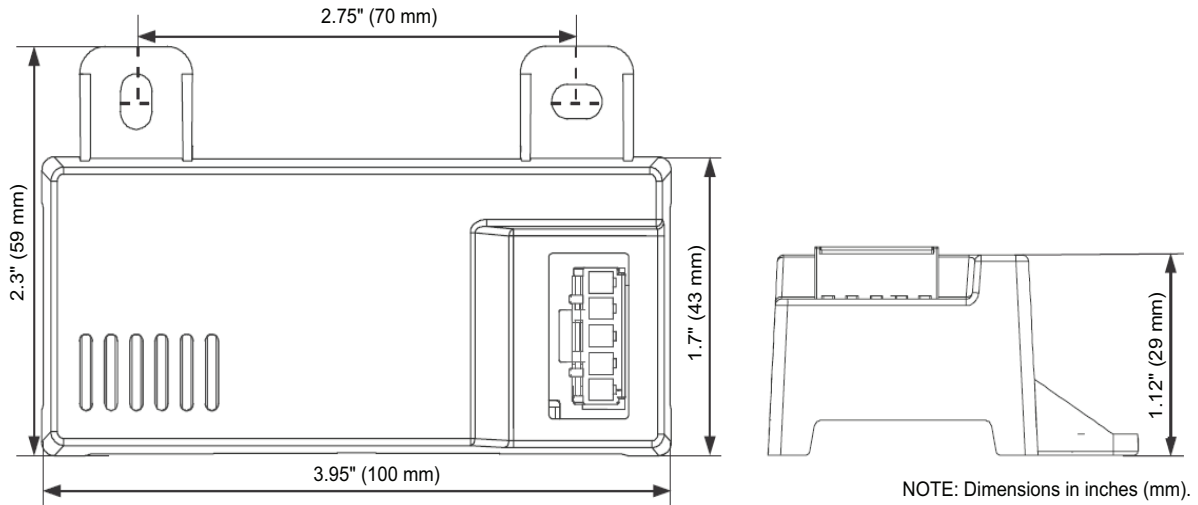
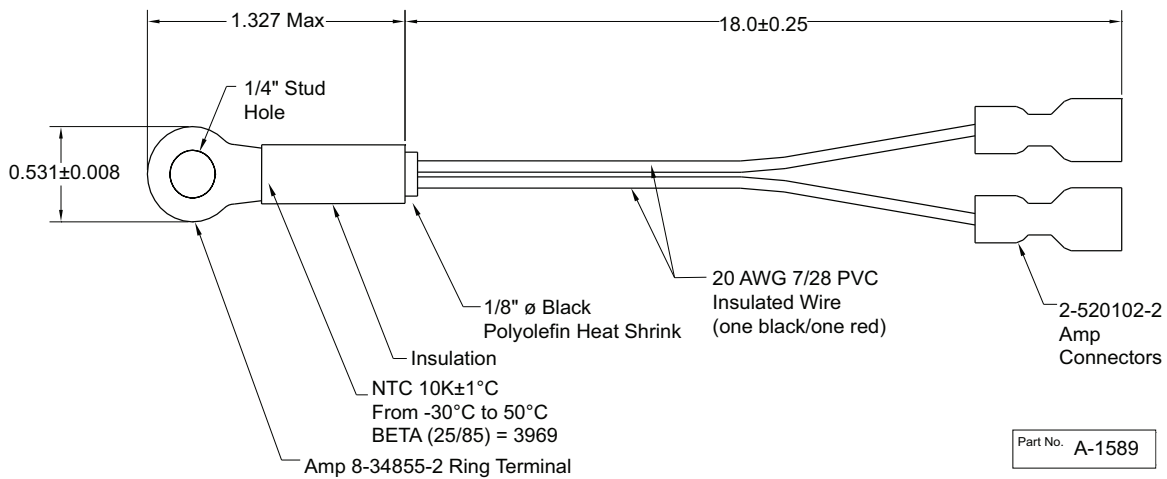
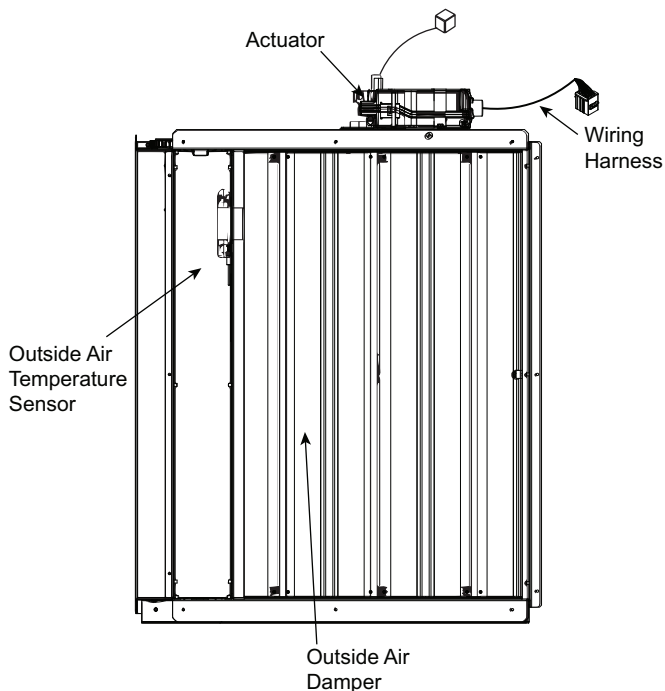

Fig. 75 — HH57LW001 Dimensional, Connection and Switching Information
Fig. 76 — HH79NZ039 Dry Bulb and Mixed Air Sensor Wiring
Fig. 77 — EconomizerONE Component Locations (CRECOMZR108A00 Shown)
When using the HH57LW001 enthalpy sensor (see Fig. 75) for outside air changeover, the existing HH79NZ039 dry bulb sensor (see Fig. 76) must be removed. The enthalpy sensor will be mounted in the same location as the dry bulb sensor (see Fig. 77). When the enthalpy sensor's OA (Outside Air) temperature, enthalpy, and dew point are below their respective setpoints, the outside air can be used for free cooling. When any of these are above the setpoint, free cooling will not be available. Enthalpy setpoints are configurable and create an enthalpy boundary according to the user's input. For additional details, see Fig. 78-79 and Table 25.
The optional enthalpy control sensor (P/N: HH57LW001) communicates with the POL224 economizer controller using the 5-wire harness, 48TC005213. The HH57LW001 sensor can be used as a single outside air enthalpy, a differential return enthalpy, or a differential return temperature sensor. Refer to the base unit control wiring diagrams found earlier in this book to wire the HH57LW001 enthalpy sensor for each option. Use Fig. 75 and Table 27 on page 55 to locate the wiring terminals for each enthalpy control sensor.
Economizers are shipped standard with an HH79NZ039 outside air dry bulb sensor (see Fig. 76). System default setting (high temp limit) is 63°F (17°C) and has a range of 48°F to 80°F (9°C to 27°C). Sensor is factory installed on economizer.
If installing the optional HH57LW001 enthalpy sensor, the HH79NZ039 dry bulb outside air sensor must first be removed. Wire sensor to harness 48TC005213 and the (5) wires from the harness to the EconomizerONE harness in the return air chamber. Harness 48TC005213 has a 5-pin plug that connects directly to the HH57LW001 enthalpy sensor. Refer to the base unit control wiring diagrams earlier in this book for wiring connections. Refer to Fig. 75 and Table 27.